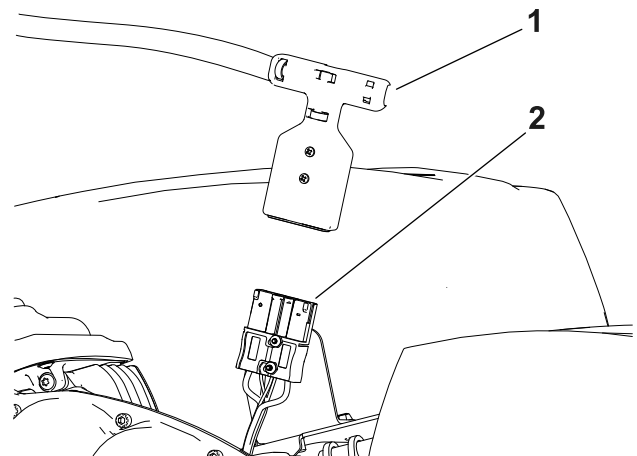

Figure 24
4. Disconnect the T-handle connector from the main wire harness to the main-power-supply connector on the battery base (Figure 24).